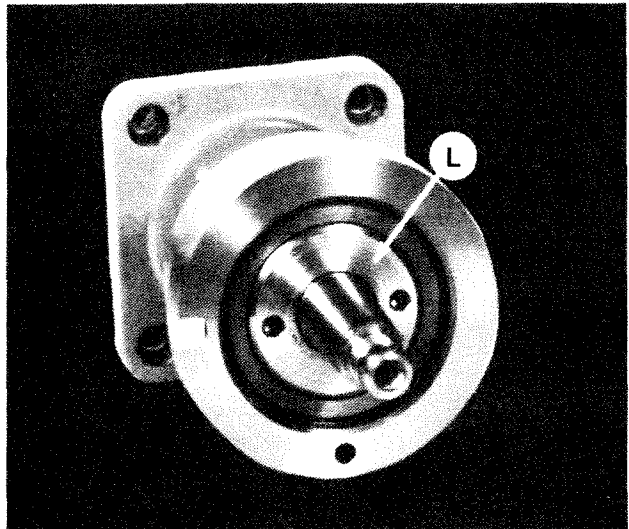

Figure 1.34 - Carriage Handwheel Housing
4. Remove nut "L", Figures 1.34 and 1.35, with a spanner wrench.
3. Install nut "L", Figures 1.34 and 1.35, with a spanner wrench.